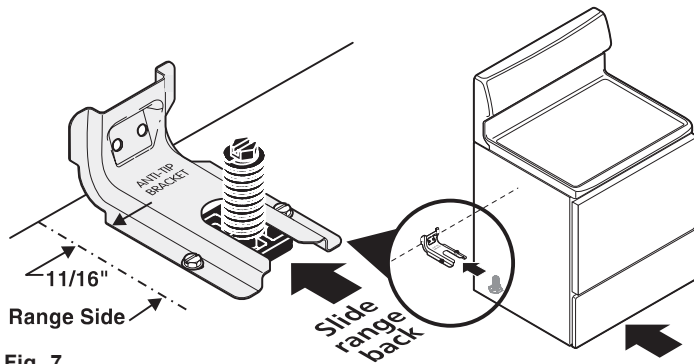

Fig. 7
1c. Level and position range - Level range by adjusting the (4) leveling legs with a wrench. NOTE: A minimum clearance of 1/8" is required between the bottom of the range and the leveling leg to allow room for the bracket. Use a spirit level to check your adjustments. Slide range back into position (See Fig. 7).
Carefully slide appliance into final position while inserting rear leveling leg into and fully engaging the Anti-Tip Bracket (See Fig. 7).